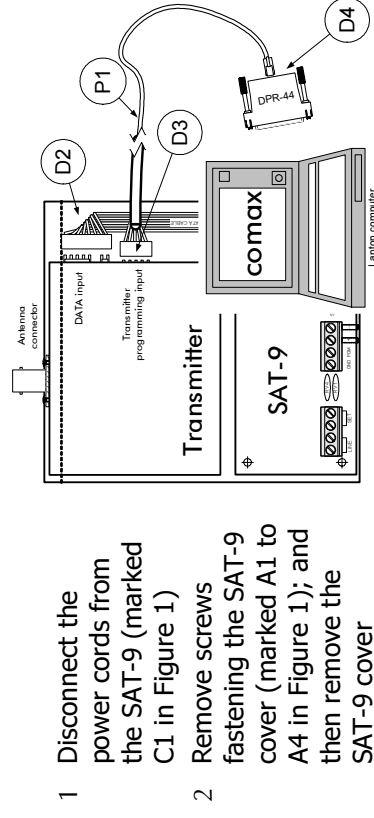
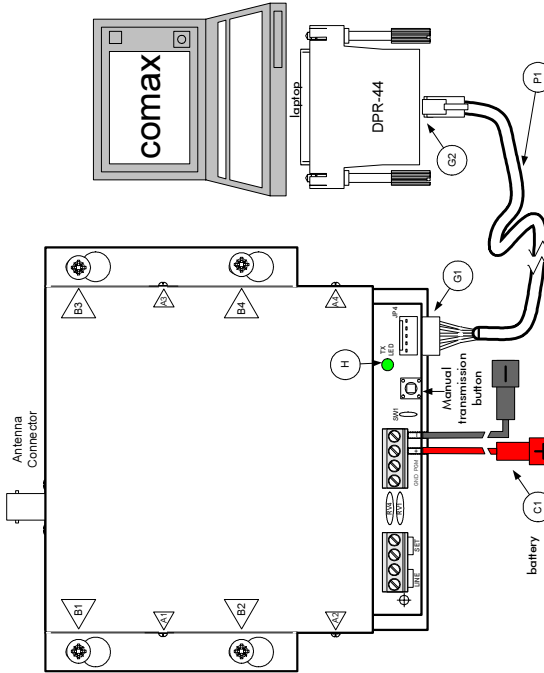

Figure 2 - SAT-9 with Cover Open
Figure 3 - Connecting SAT-9 to COMAX
- 3 Connect the DPR-44 to the transmitter programming input as follows: Connect the molex end of the cable marked as P1 in figure 3 to the transmitter's programming input (marked D3 in Figure 2). Connect the other end of the P1 cable the DPR-44 connector (marked D4 in Figure 2)
- 9 Remove the programming cable from the transmitter (marked P1 in Figure 2)
- 1 Make sure the power cords are disconnect from the SAT-9 (marked C1 in Figure 3)
- 2 Connect the DPR-44 to the programming connector on SAT-9 panel as follows: The Molex end of the P1 cable to JP4 (marked G1 in Figure 3) and the RJ11 end of the P1 cable to the DPR-44 connector (marked G2 in Figure 3).
- 11 Perform a Manual Transmission Test by pressing the test button (marked H in Figure 3)